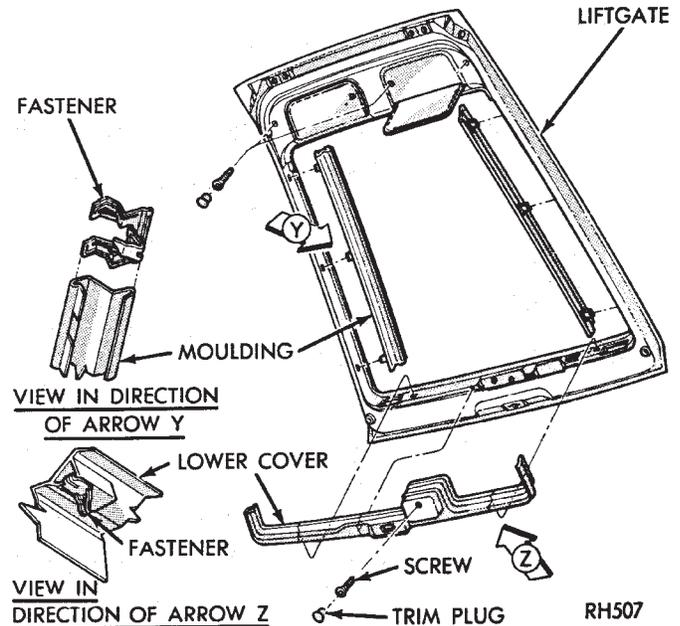

Fig. 15 Liftgate Lower Cover
(1) Remove lower cover on liftgate (Fig. 15).